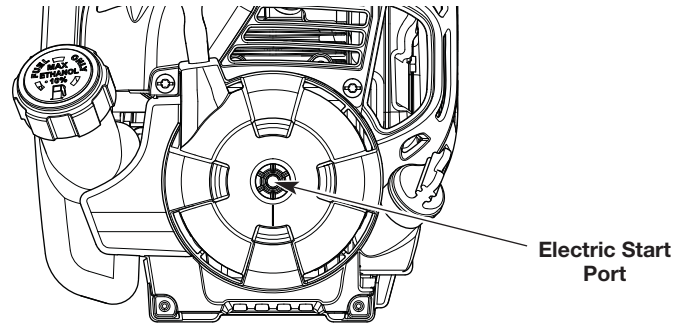

Fig. 12
6. Insert the electric start accessory into the electric start port (Fig. 12). Refer to the *Operation* section of the electric start accessory operator's manual.